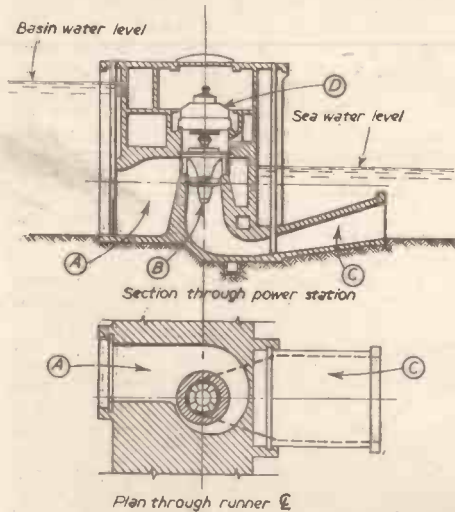

Fig. 3.—Section and plan of turbines and generators.
Fig. 3 shows a section through that part of the barrage which contains the turbines and generators. Water flows in from the basin through the spiral casing (A) down past the turbine runner (B), and out of the draught tube (C). The turbine runner is shaped like a ship's propeller, and it is the water